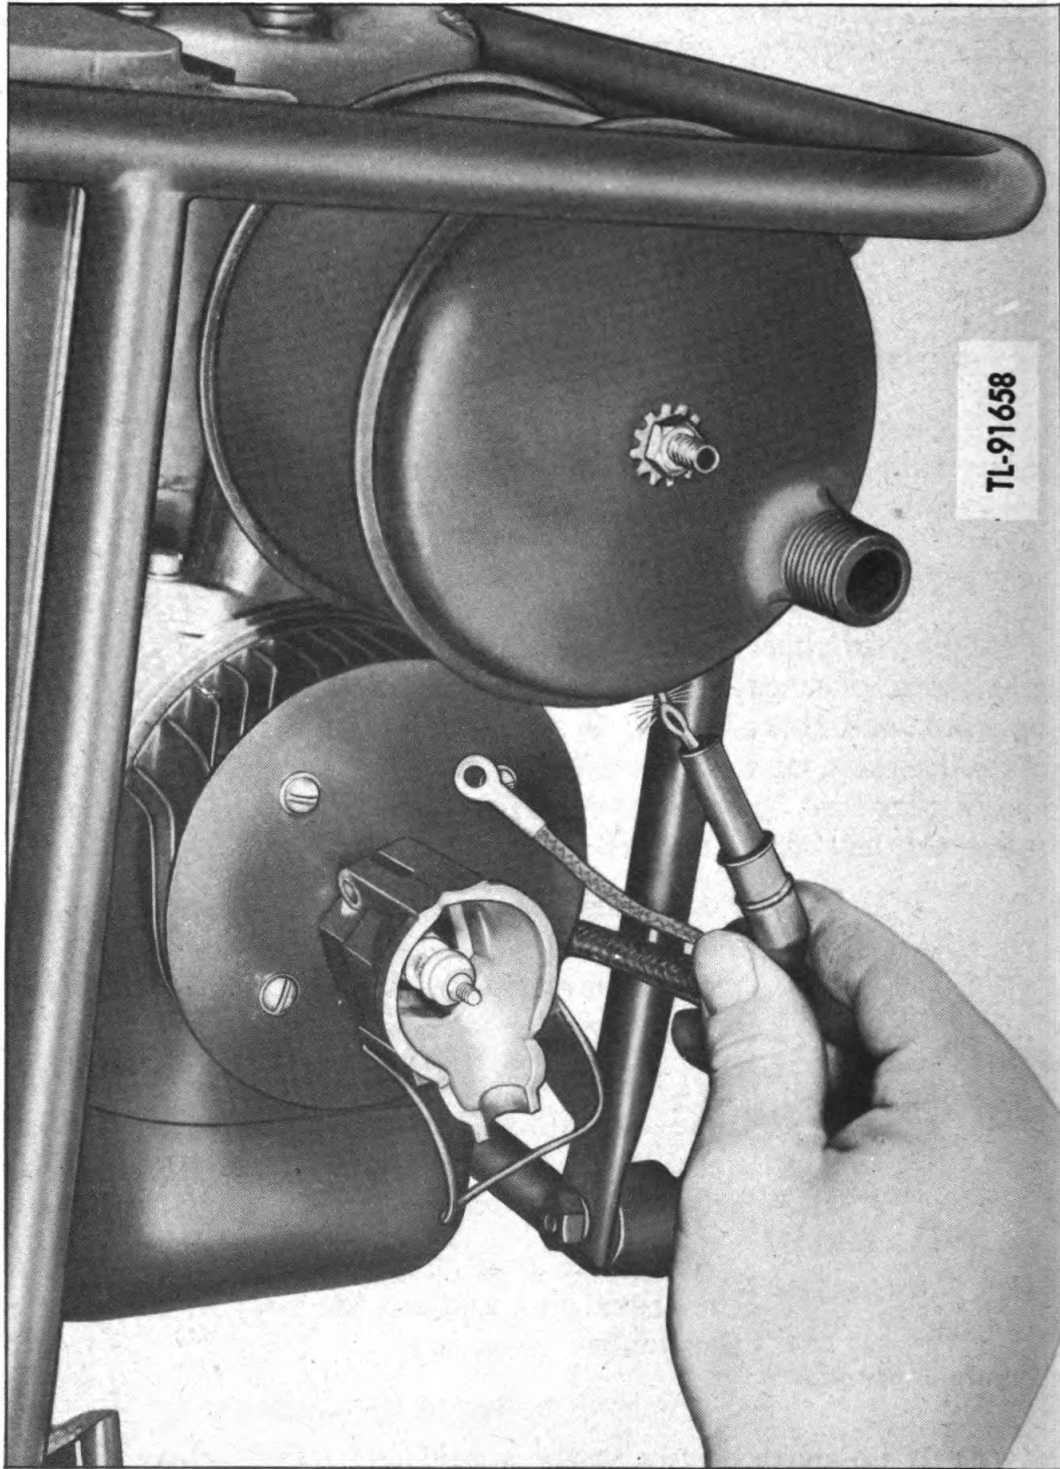

Figure 10. *Test for spark output*
(3) If the spark plug is removed and the points are found to be wet, it is an indication that the engine is being operated with too rich a fuel mixture, or the ratio of gasoline to oil is not correct.
**b. Magneto.** (1) If there is an indication that the magneto is causing trouble, test the magneto before attempting to repair it. If the engine refuses to start after it is determined that the spark plug is all right, check the magneto by removing the high-tension wire from the spark plug and hold the end of the wire about 3/16 inch away from a point on the engine (fig. 10). When the engine is cranked in the usual manner, a properly performing magneto will have a spark output strong enough to jump the prescribed gap.
(2) If the spark produced will not meet the above test, it is very likely the breaker points require adjustment and should be gapped to 0.020-inch opening. The only adjustable part of the magneto is the breaker plate, which provides adjustment for the breaker points.
(3) To adjust the breaker points, proceed as follows: